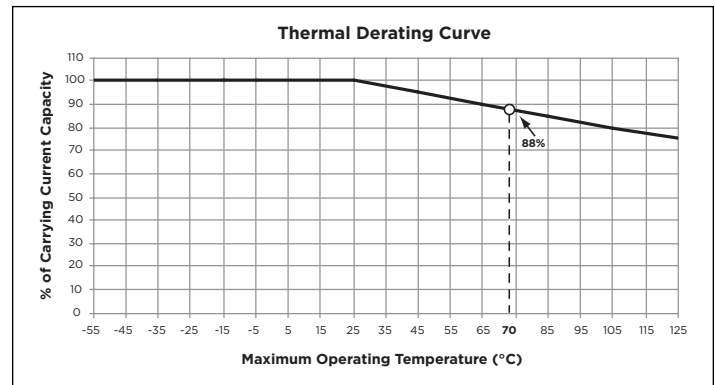

Figure 2. Thermal Derating Curve
A fuse is a temperature sensitive device. Therefore, operating temperature will have an effect on fuse performance and life-time. Operating temperature should be taken into consideration when selecting the fuse current rating. The Thermal Derating Curve for Raychem surface mount chip fuses is presented in Figure 2. Use it to determine the derating percentage based on operating temperature and apply it to the derated system current.
K_{temp} is the % derating determined from the Thermal Derating Curve in Figure 2
$$K_{\text{temp}} = 88\% \text{ (determined from Figure 2)}$$
Once the pulse cycle derating has been applied to the calculated I^2t value, derating for operating temperature should be applied according to the thermal derating curve shown in Figure 2.
$$K_{temp} = 88\% \text{ (determined from Figure 2)}$$
- Step 4—Apply Pulse Temperature Derating—Derate the I^2t value based on system operating temperature. In this example apply 88% thermal derating at 70°C from Figure 2.